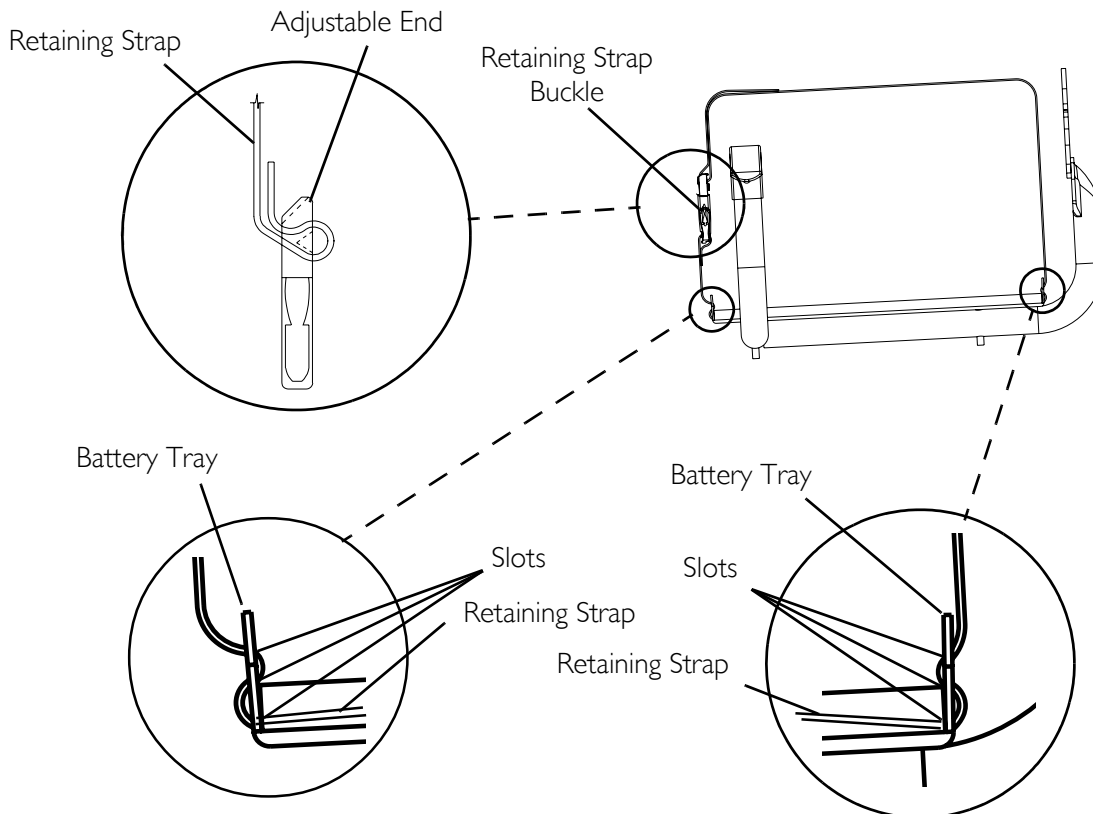

FIGURE 12.10 Replacing the Battery Box Retaining Strap
NOTE: For this procedure, refer to FIGURE 12.10.
The retaining strap MUST be fed through the adjustable end of the battery box retaining strap buckle as shown in FIGURE 12.10.
5. Install the NEW battery box retaining strap by reversing STEPS 3 and 4 as shown in FIGURE 12.10.